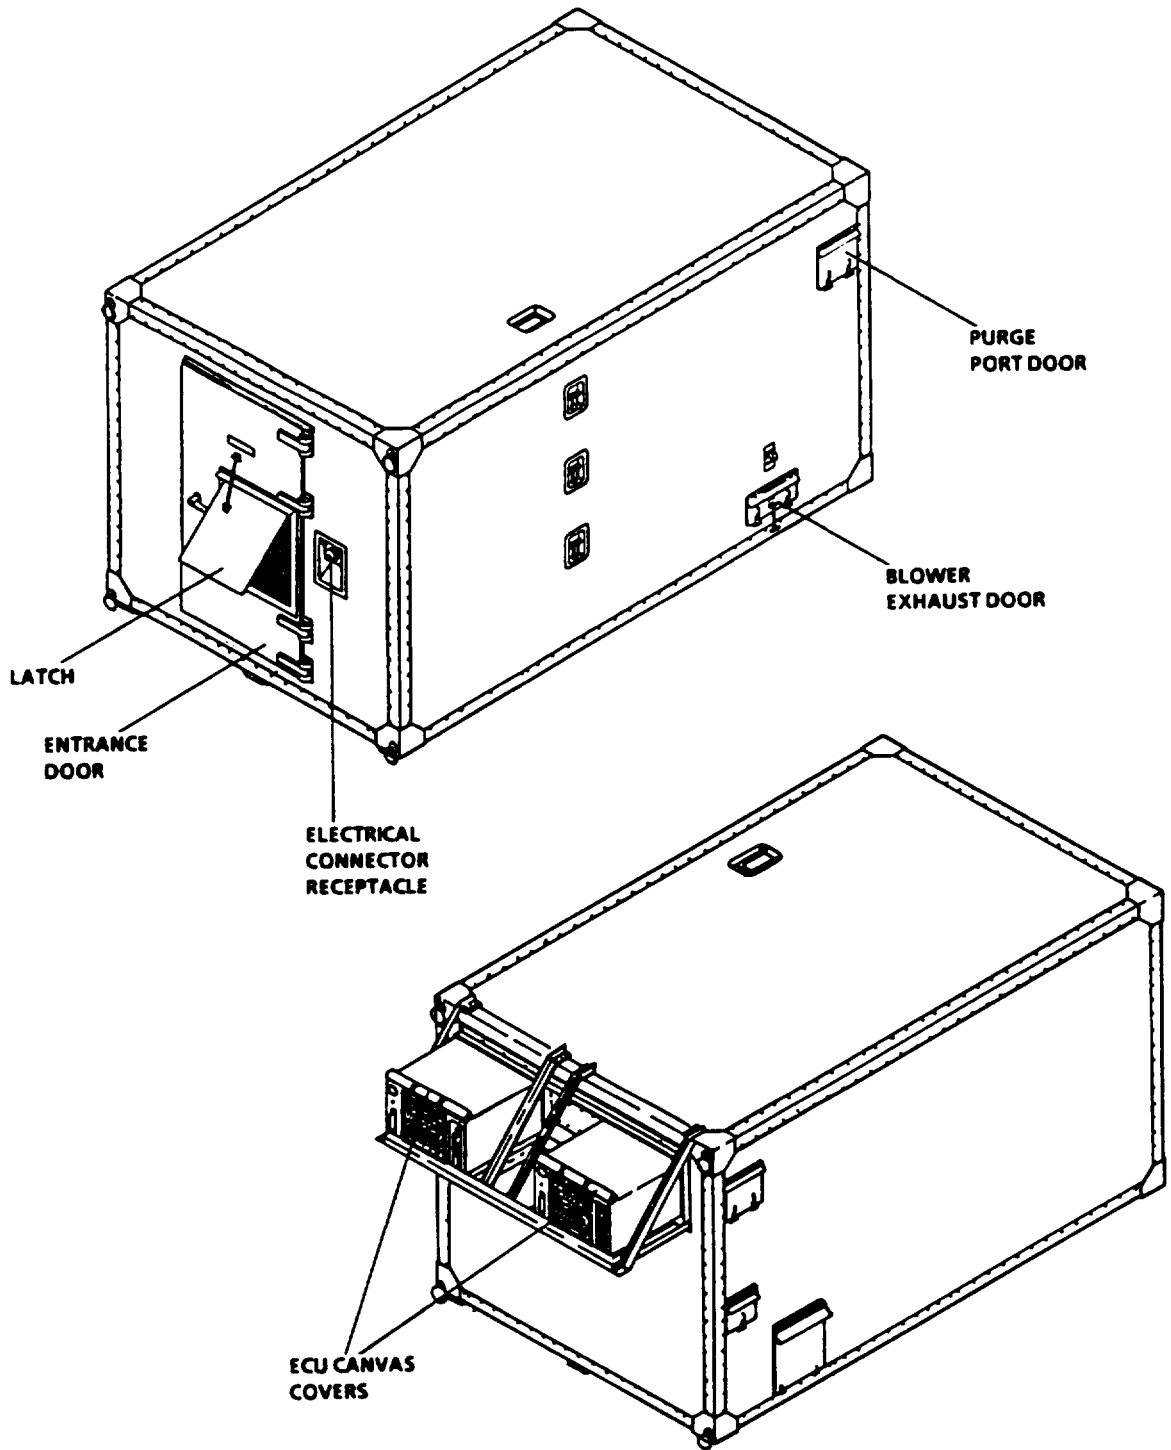

Figure 2-13. Laboratory Start-Up
d. Laboratory Startup. The following procedure is used to power-up the Airmobile Laboratory (refer to Figure 2-13).